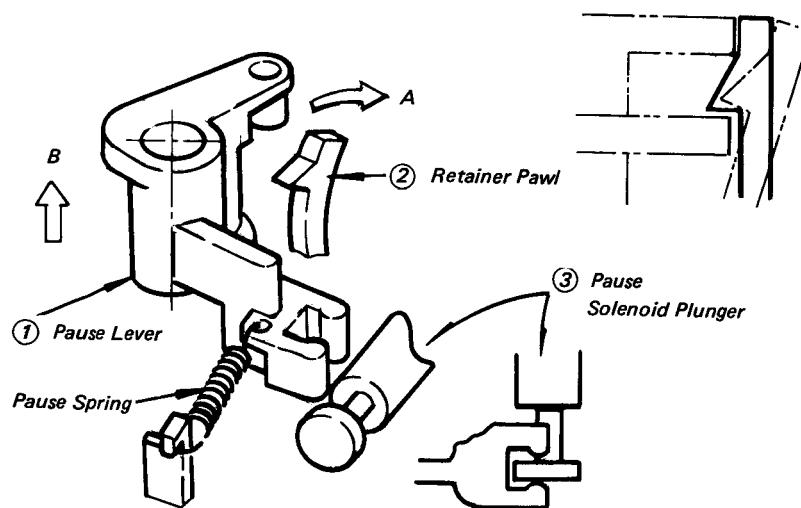

Fig. 5-40 Pause Lever Detaching
3. Also, mount and push the pause lever ① until this cannot be extracted as fastened by the reel chassis retainer pawl ② so that the pause lever ① can be fitted with the pause solenoid plunger ③ as shown in Fig. 5-40.
4. After completing installation of the cassette compartment assembly, perform checking by item 10-1, the "checking" above.